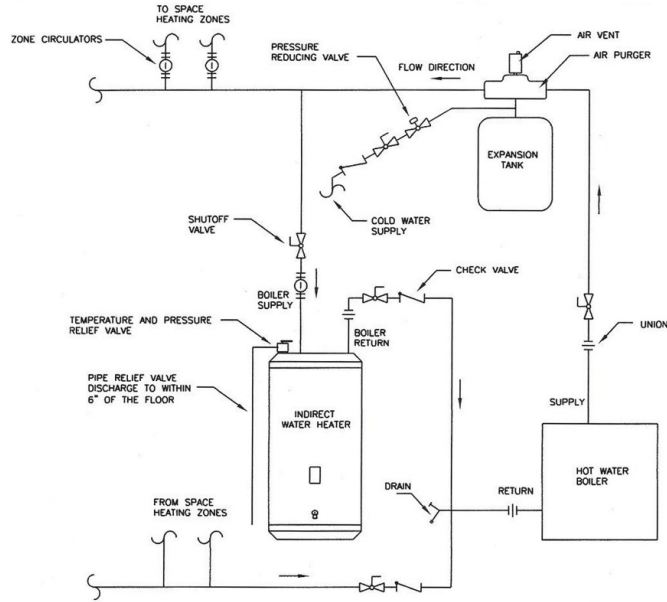

FIGURE 2 – BOILER WATER PIPING WITH ZONE CIRCULATORS
BOILER WATER PIPING (Refer to Figures 2, 3 on Pg. 11)
1. Determine where the boiler, the space heating, and the water heater connections should be made based on the type of piping system that is either in place or is to be installed for a new hydronic system installation. See Figure 2 (Boiler Water Piping with Zone Circulators) and Figure 3 (Boiler Water Piping with Zone Valves).
For space heating systems that use Zone Circulators, refer to Figure 2 on pg. 11. The water heater connection labeled "BOILER SUPPLY" should be piped to the boiler supply piping after the air purger and before the space heating takeoffs. Mount the water heater circulator as close to the water heater as possible, and make sure the flow arrow points toward the water heater. The use of shut-off valves is recommended for future service convenience.